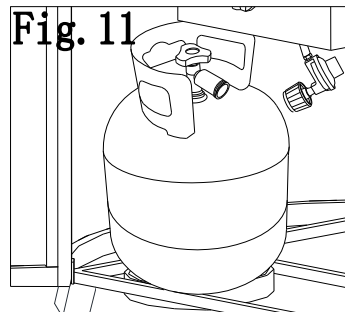

Fig. 11
- 2- Put the cylinder into the cylinder rack. See Fig 11.